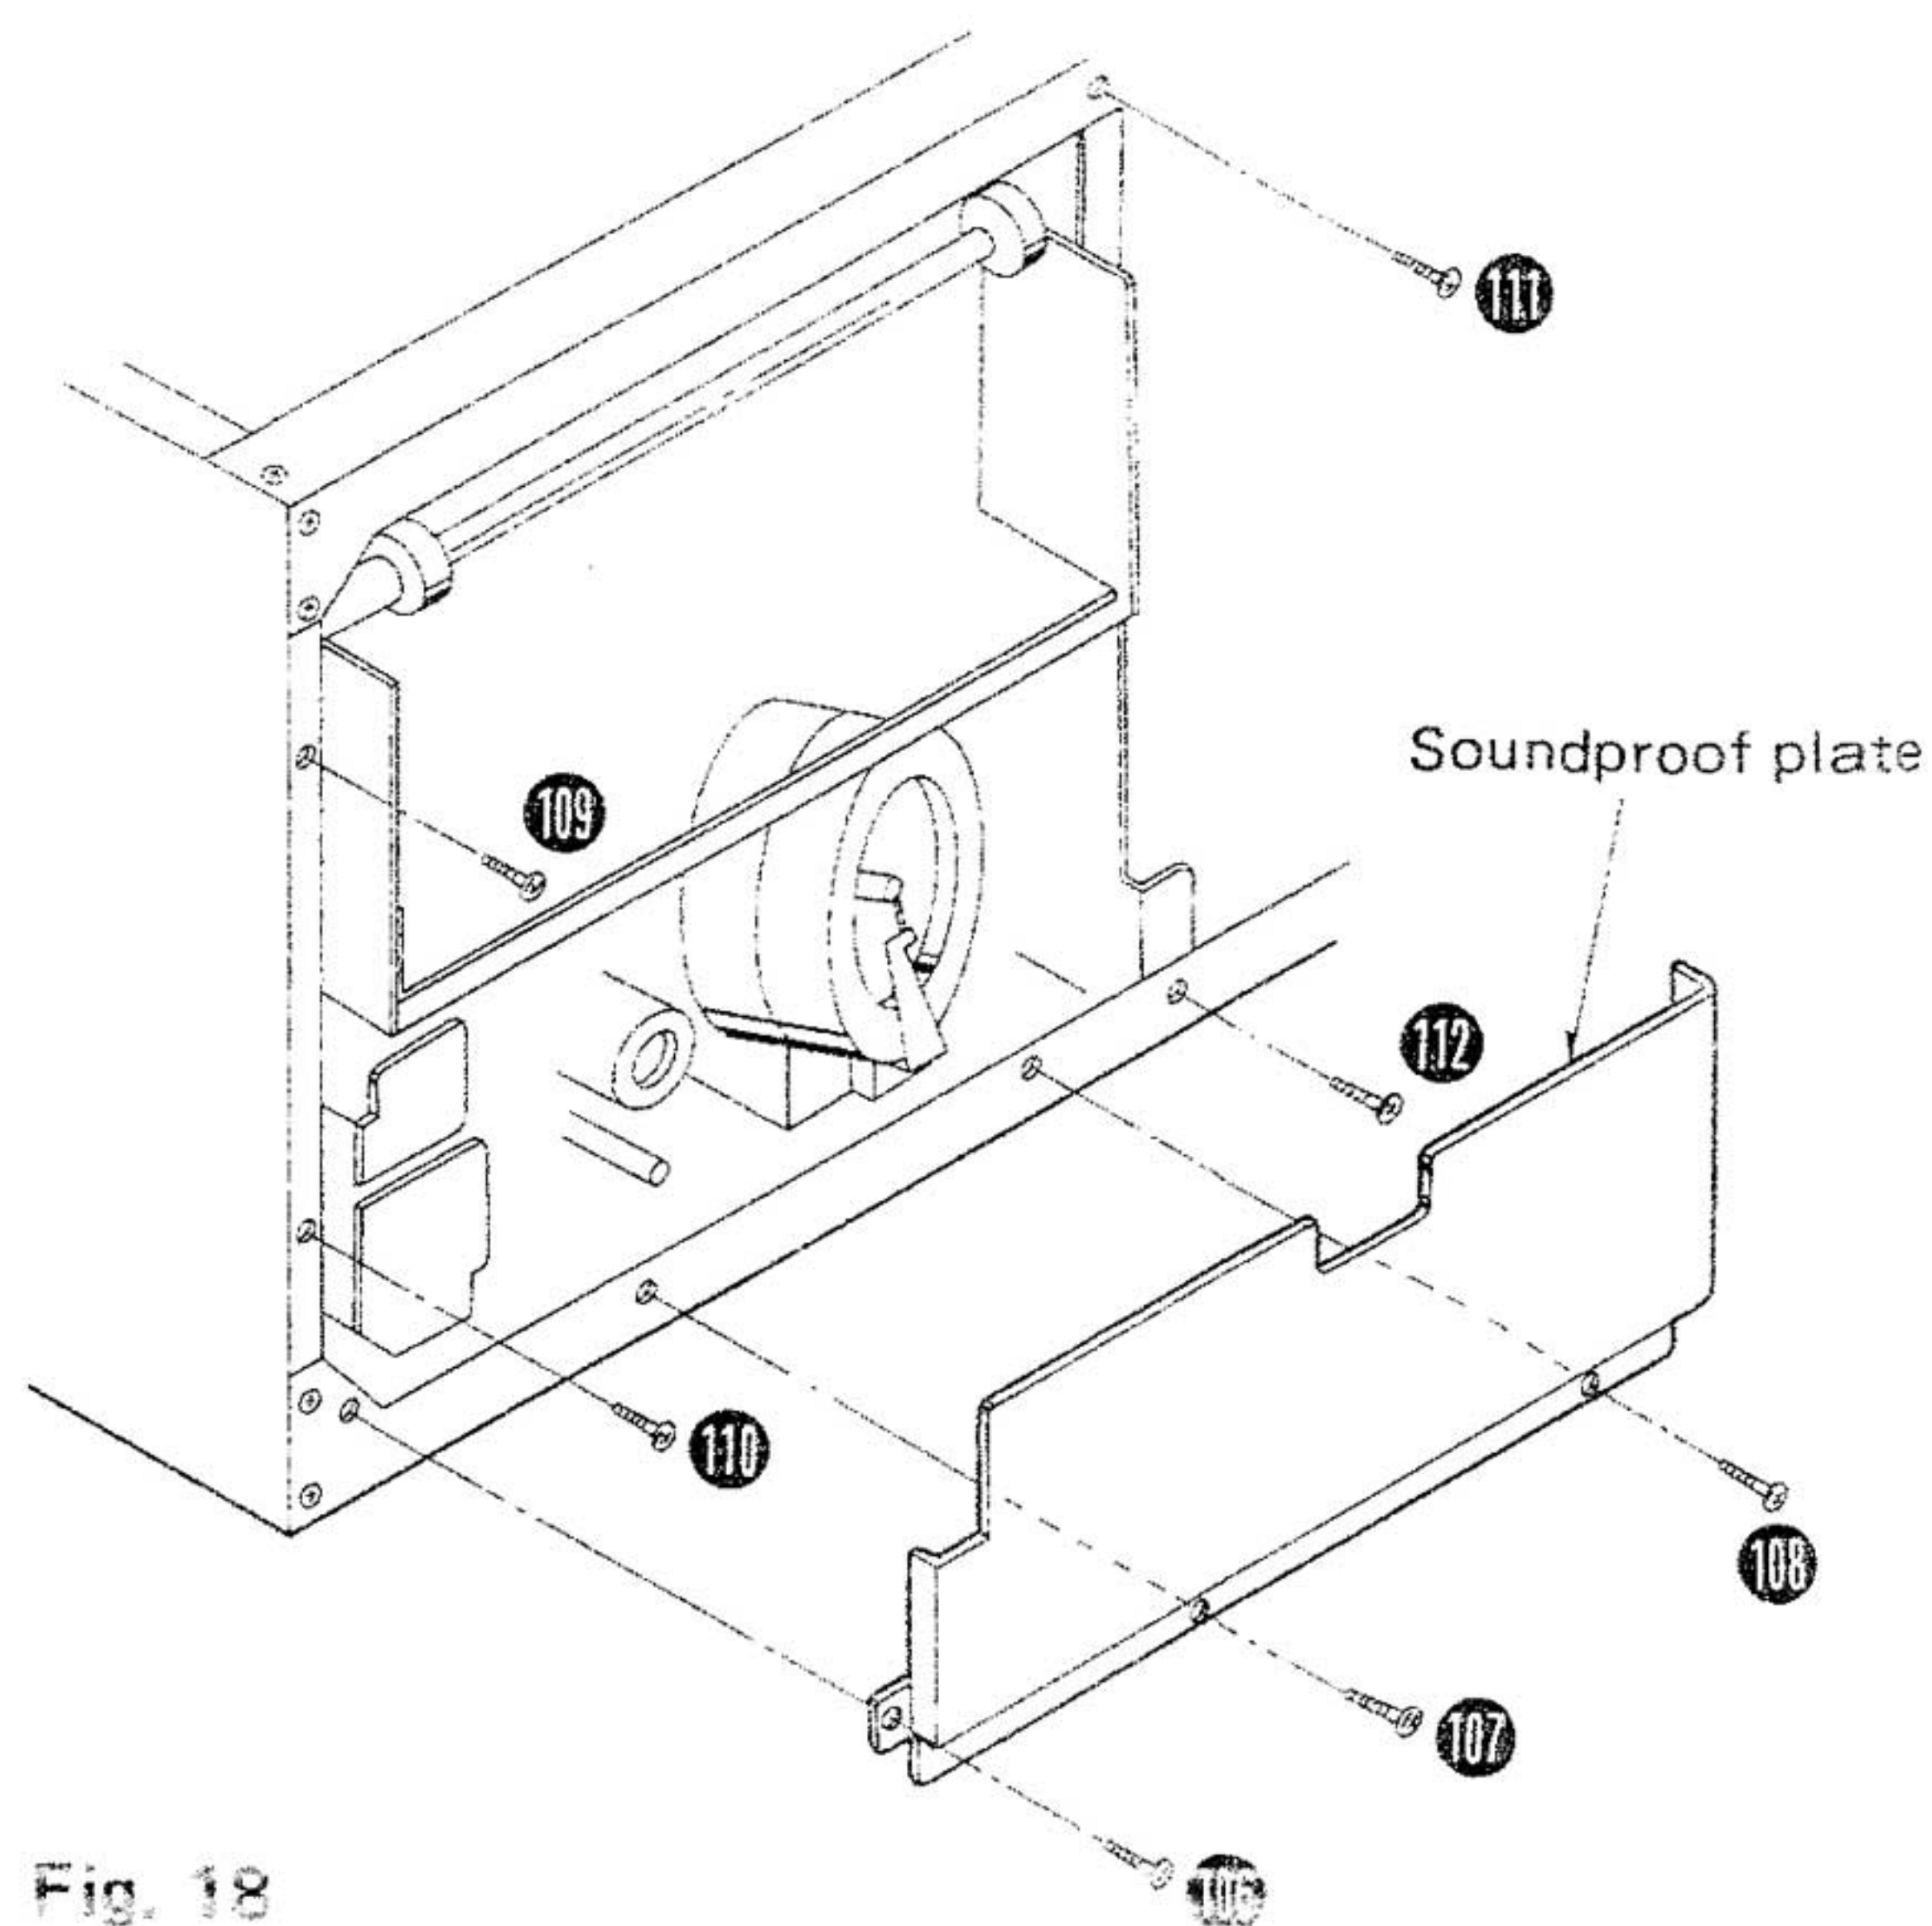

Fig. 18
5. Remove the 3 setscrews (Fig. 18 : 106 ~ 108 ) of the soundproof plate and check the front cassette mechanism.
2. Remove the soundproof plate. (See Fig. 18)
6. Remove the 4 setscrews (Fig. 18 : 109 ~ 112 ) of the cassette deck.